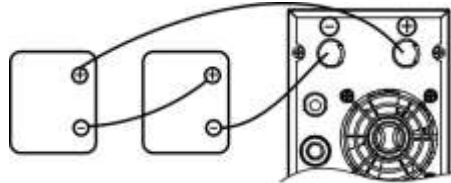

Fig 2
2) Multiple batteries in series connection (Refer to Fig. 2): All batteries must be equal in voltage and amp hour capacity. The sum of their voltages must be equal to the nominal DC Voltage of the unit.